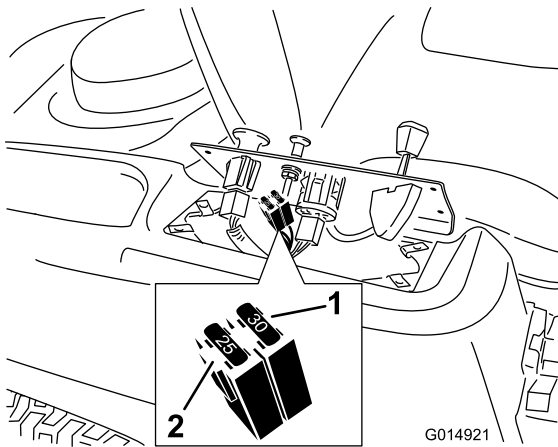

Figure 42
- Lift the control pane up to access the main wiring harness and fuse block (Figure 42).
- To replace a fuse, pull out on the fuse to remove it (Figure 42).